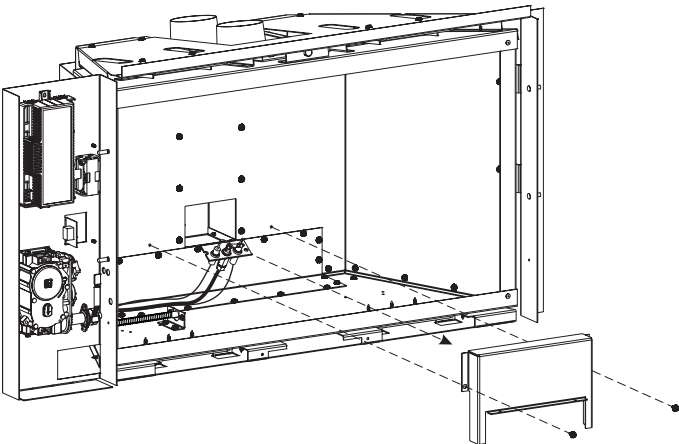

Figure 47
15. Remove the two screws securing the “air box” to the rear of the firebox. Remove the “air box” and set aside. **See Figure 47.**